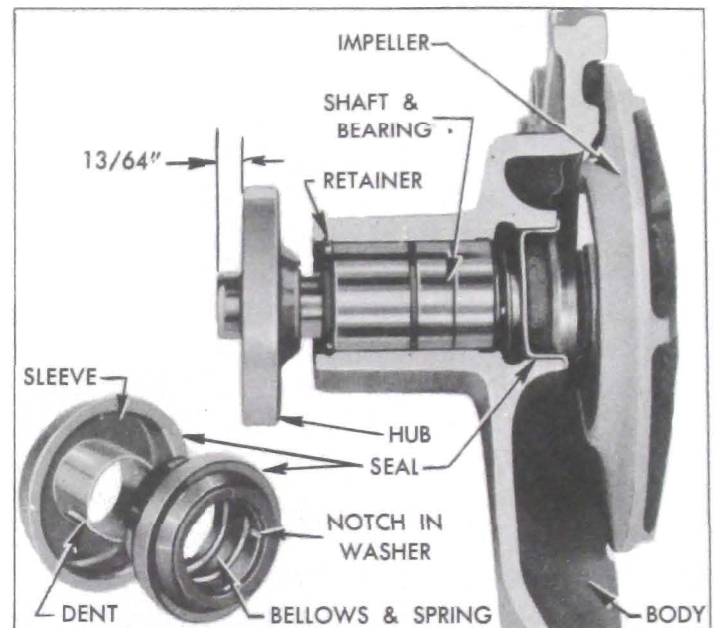

Figure 2-40—Water Pump Parts
7. Check pump shaft bearing for end play, or roughness in operation. If bearing is not in servicable condition, press the fan hub off the shaft, remove bearing retainer, then press bearing out toward FRONT of pump cover. See figure 2-40.
2. Use care to start the fan hub squarely on front end of bearing shaft and press it into position  $\frac{13}{64}$ " from end of shaft. See figure 2-40.
assembly in the old sleeve in pump body, being careful to engage the two notches in washer with the driving dents in brass sleeve. See figure 2-40.